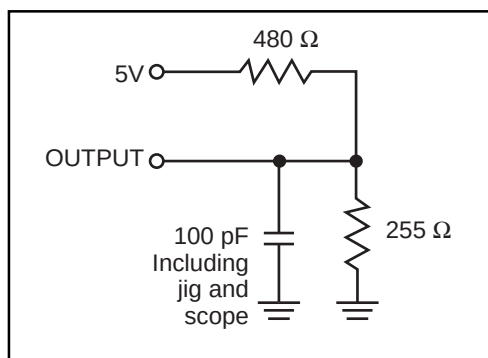

Figure 1a.
- Test conditions assume signal transition times of 5 ns or less, timing reference levels of 1.5V, input pulse levels of 0 to 3.0V and output loading specified in Figure 1a.
| Output Load                                 | See Figures 1a and 1b |
1. Test conditions assume signal transition times of 5 ns or less, timing reference levels of 1.5V, input pulse levels of 0 to 3.0V and output loading specified in Figure 1a.